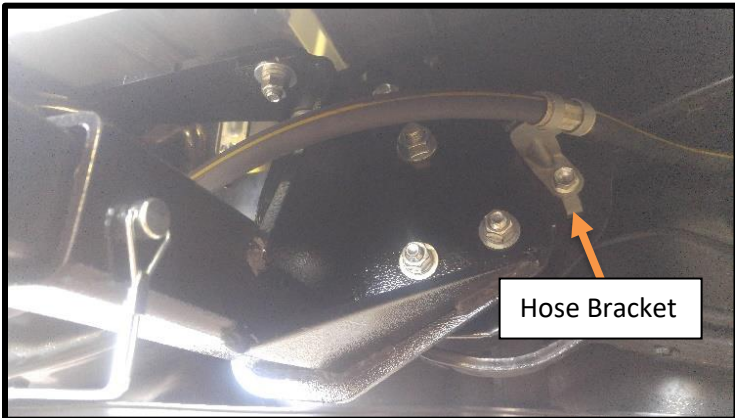

Figure 8.1
- Temporarily remove the hose bracket shown in figure 8.1 if needed. Replace when finished.